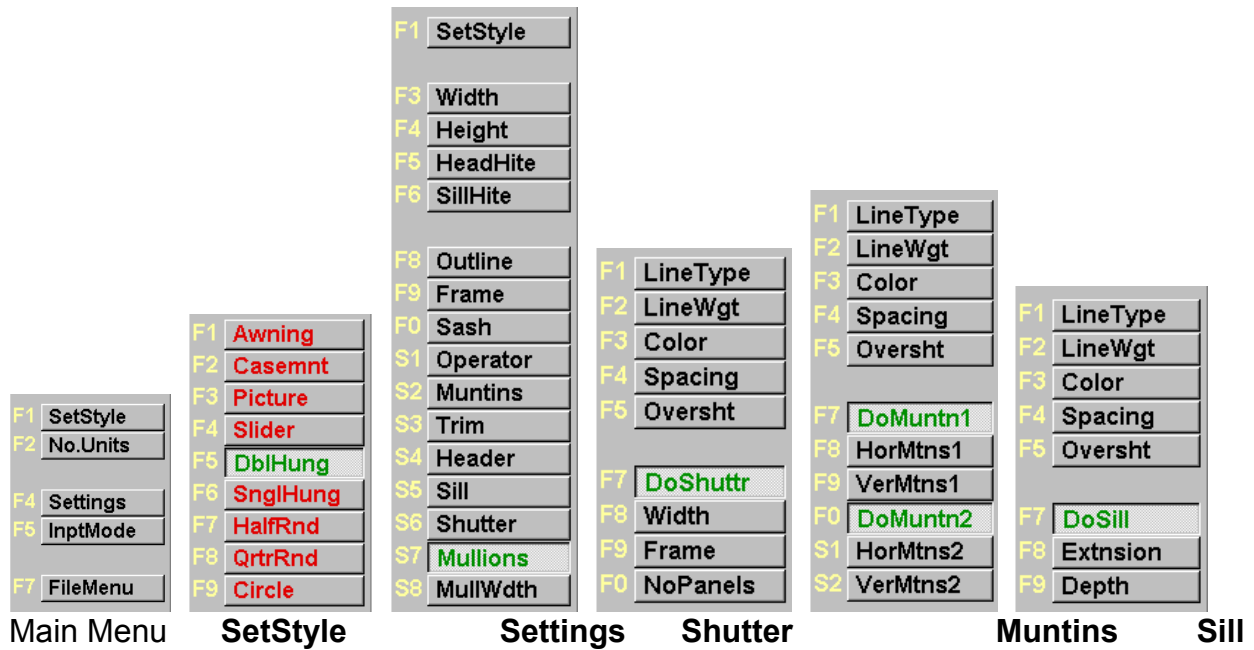

Figure 5-39: Some of the Window Master menus.
Figure 5-39 shows some of the macro’s menus. Most of them have sub menus for particular options. We’ll go over some of them here.
1. From the main menu of the macro select **SetStyle**. A new menu will be displayed with 9 options for various window types (the second menu in Figure 5-39).
4. Now pick **Settings**. A new menu will be displayed with 16 options for your windows (the third menu in Figure 5-39).